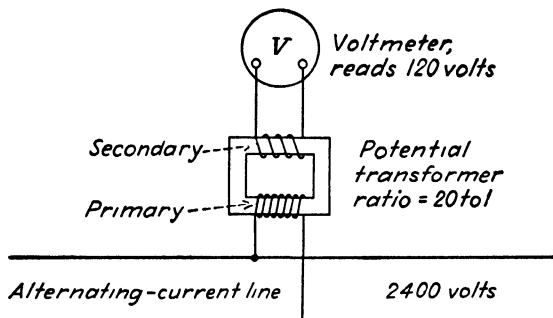

FIG. 5-34. Voltmeter and potential transformer in alternating-current line.
**Connections.** The connections of the potential transformer and voltmeter on a 2,400-volt line are shown in Fig. 5-34. To arrive at the